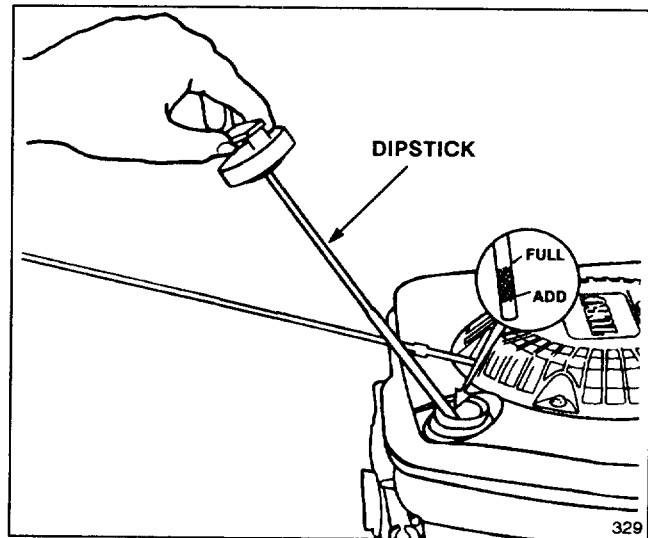

Figure 5
Before each use, ensure oil level is between FULL and ADD marks on dipstick (Fig. 5). Add oil if level is low.
1. Position mower on level surface and clean around oil dipstick (Fig. 5).
3. Wipe dipstick and insert it into filler neck. Rotate cap clockwise 1/4 turn. Then remove dipstick and check level of oil on side of dipstick with FULL and ADD marks (Fig. 5). If level is low, add only enough oil to raise level to FULL mark on dipstick. **DO NOT FILL ABOVE FULL MARK BECAUSE ENGINE COULD BE DAMAGED WHEN STARTED. POUR OIL SLOWLY.**